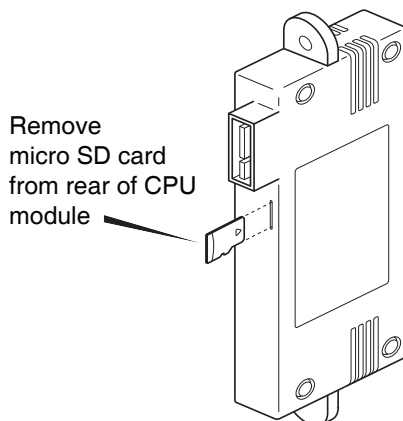

Fig 6 Removing micro SD card from plug-in CPU module
- a. The easiest and fastest technique is to unplug the CPU module from the Hazardous area Pageant Operator Display and remove the micro SD card as shown in Fig 6.